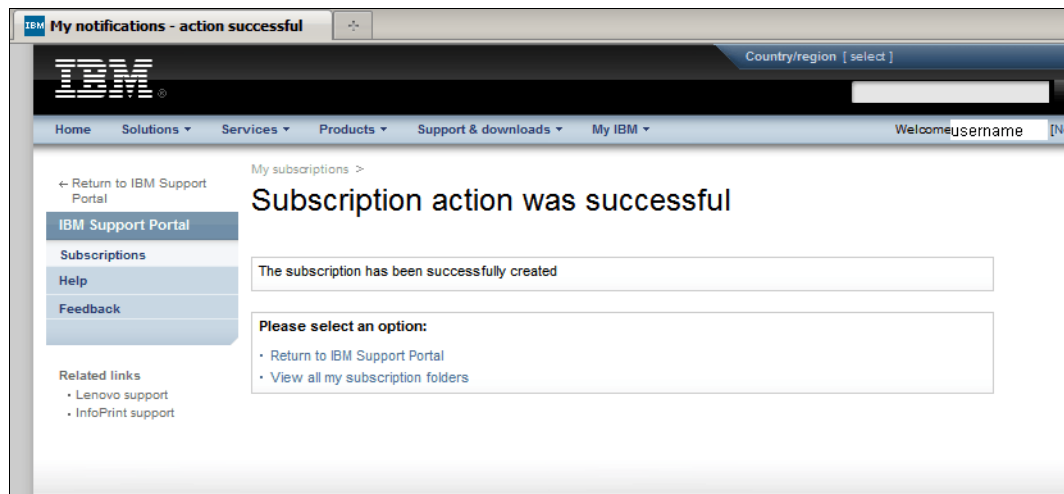

Figure A-21 My notifications - Successful
- You will see the window shown in Figure A-21 when you have completed the My notifications setup.